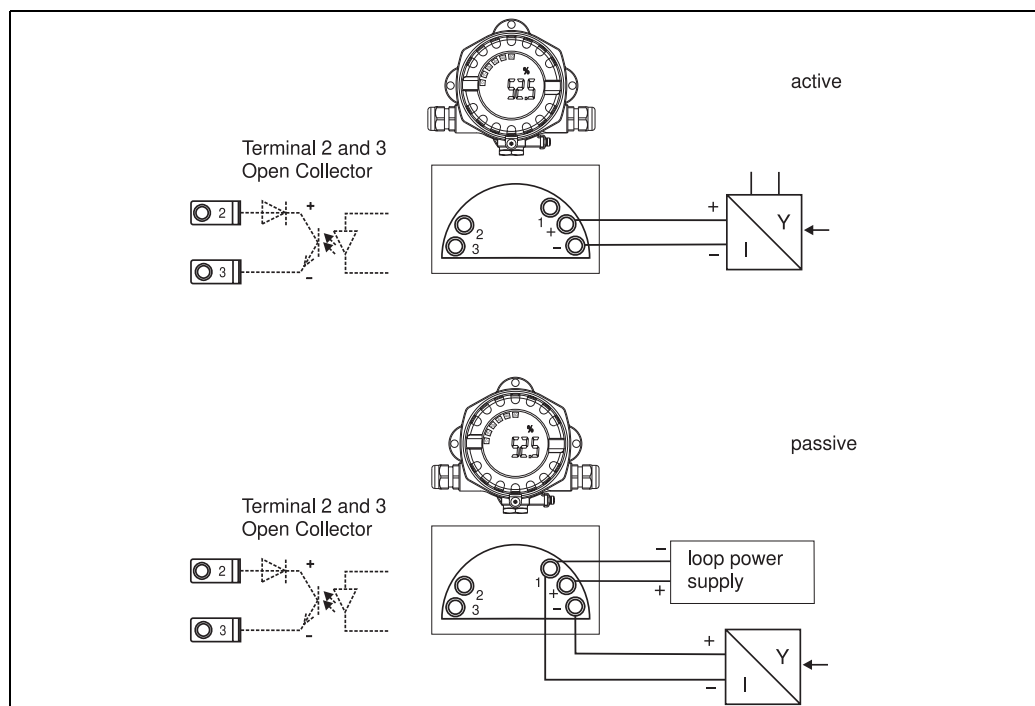

Fig. 6: Terminal assignment
6. Connect the wires (→ Fig. 6).